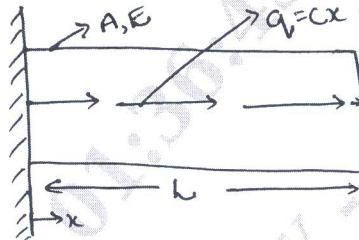

Fig.Q2(b)
b. A bar of length L, cross sectional area 'A' and modulus of elasticity E, is subjected to distributed axial load  $q = cx$ , where 'C' is a constant as shown in Fig.Q2(b). Determine the displacement of the bar at the end using Rayleigh – Ritz method.